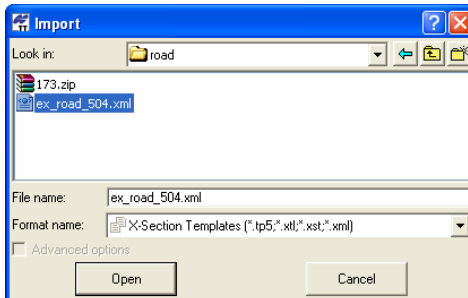

Figure 3-30. Import X-Section Template File
- Click **Open** to import the file (Figure 3-30).